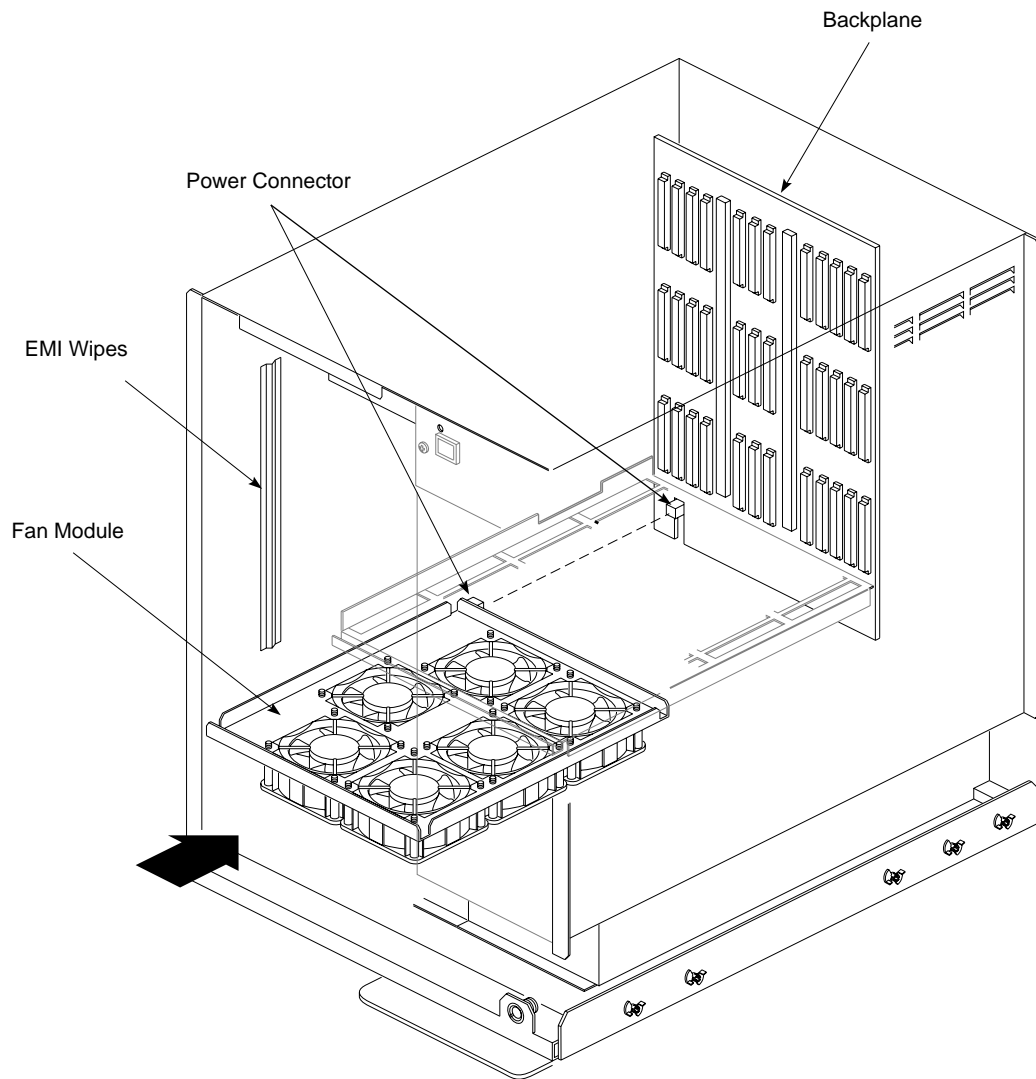

Figure 3-14 Installing the Six-fan Module for RealityEngine
5. Position the new six-fan module so that the wide lip and power connector are on the left side of the chassis, as shown in Figure 3-14. The power connector should be the first part of the fan assembly to enter the chassis.